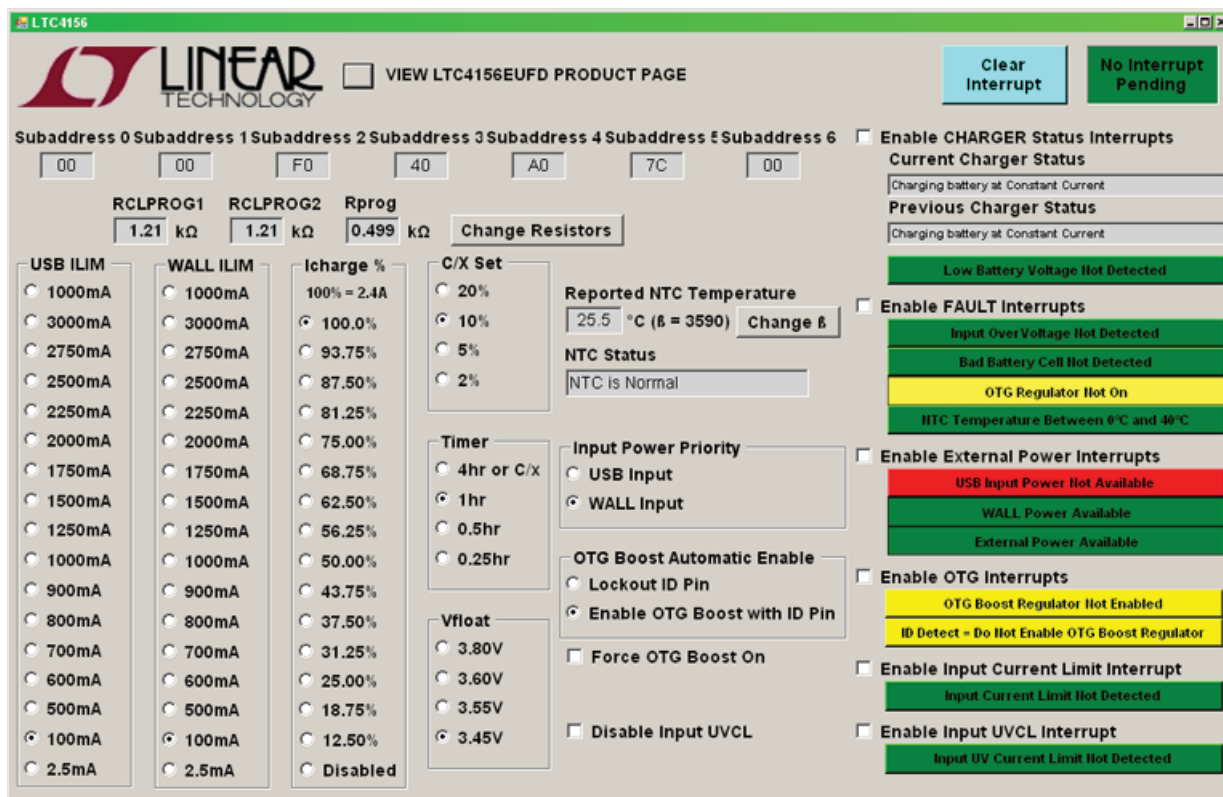
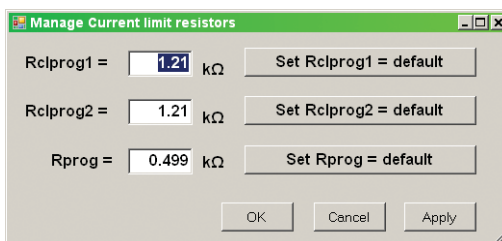
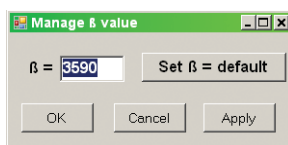

Figure 3. LTC4156 Main Form
Figure 4. Manage Current Limit Resistors Form
Figure 5. Manage β Value Form
2. Start the Linear Technology QuickEval™ program. Download and install the latest version of the QuickEval program from the following weblink: <http://www.linear.com/designtools/software/>. This program should automatically detect the presence of the LTC4156EUFD demo board (DC1674A-B) and activate the appropriate GUI, as seen in Figure 3.
The DC1674A-B GUI is composed of three forms, the LTC4156 form (Figure 3) that is brought up by the QuickEval program, the Manage Current Limit Resistors form (Figure 4), that is brought up by pressing the “Change Resistors” button on the LTC4156 form, and the Manage  $\beta$  Value form (Figure 5) that is brought up by pressing the “Change  $\beta$ ” button on the LTC4156 form.